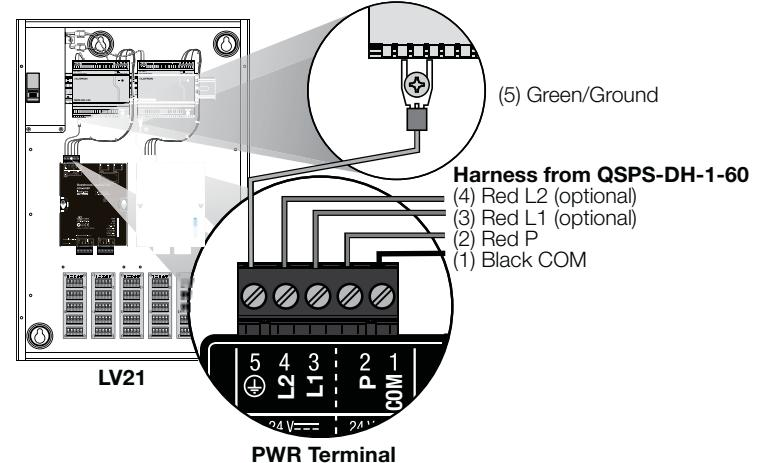

Figure 3—Diagnostic LEDs
- 5. Verify operation:** Confirm that the unit is powered by referring to the PWR LED on the front of the unit. Further diagnostic information can be obtained from the additional diagnostic LEDs on the unit. Please refer to **Figure 3** for explanation of the diagnostic LEDs.